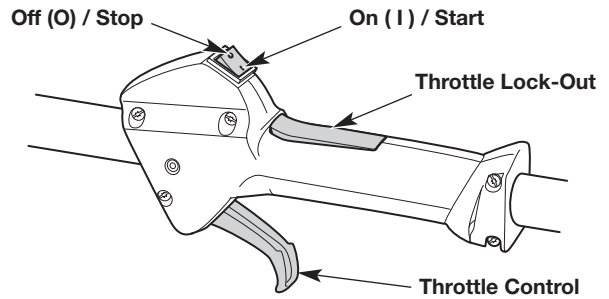
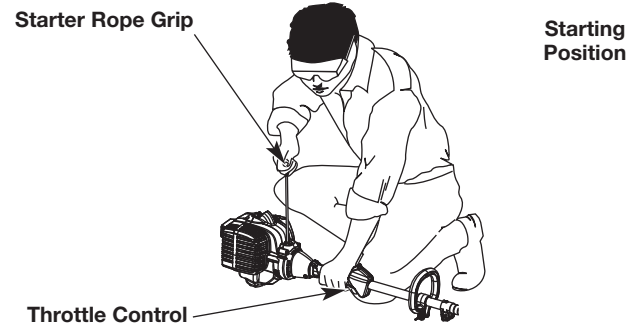

Fig. 10
Fig. 12
WARNING: Avoid accidentally starting the unit. To avoid serious injury, the operator and the unit must be in a stable position when pulling the starter rope (Fig. 12).
NOTE: There is no need to turn the unit on. The On/Off switch is in the ON (I) position at all times (Fig. 10).
5. Crouch in the starting position (Fig. 12).
6. Press the throttle lock-out and squeeze the throttle control (Fig. 10). Pull the starter rope with a controlled and steady motion **5 times** (Fig. 12).
2. Press and hold the On/Off switch in the OFF (O) position until the engine comes to a complete stop (Fig. 10).